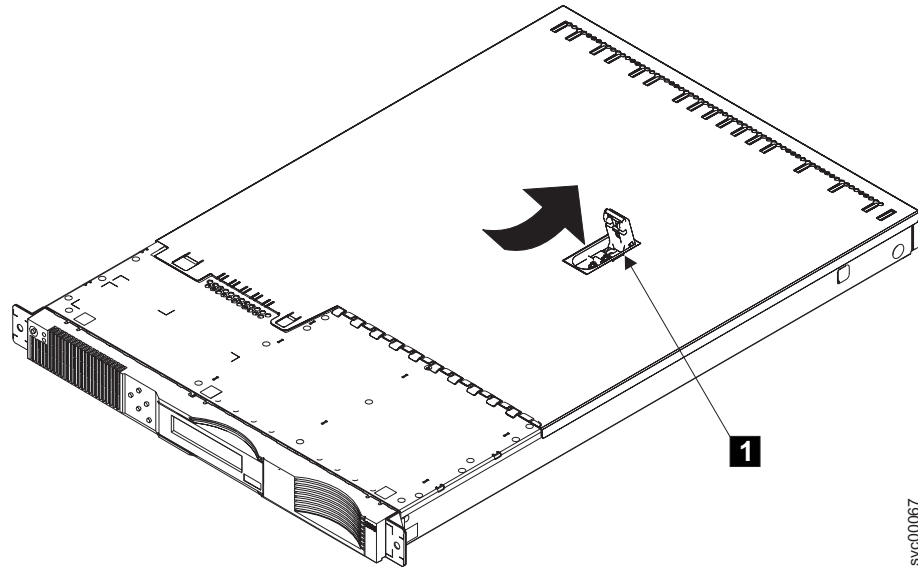

Figure 57. SAN Volume Controller 2145-4F2 with the fan door open
1. Ensure that the lever **1** is fully up, as shown in Figure 57 on page 75.